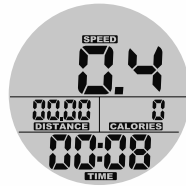

Figure 4
- (1) If the Safety key is installed, press the **START/STOP** button to start the treadmill. (figure 4). The initial running speed is 0.4 m/h, it can be changed by pressing the **UP** button with each increment (or decrement by the **DOWN** button) of 0.1 m/h until the maximum speed of 4 m/h. If the button is pressed down for 1.5 seconds, the increment and decrement will be doubled, and stop when the button is released. While the running speed is adjusted, it is not able to have a loop function.